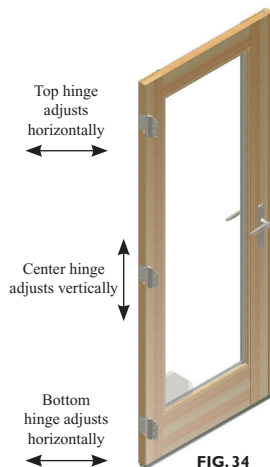

FIG. 34
- B) Hinge adjustment may be required to complete the installation. (Fig. 34)